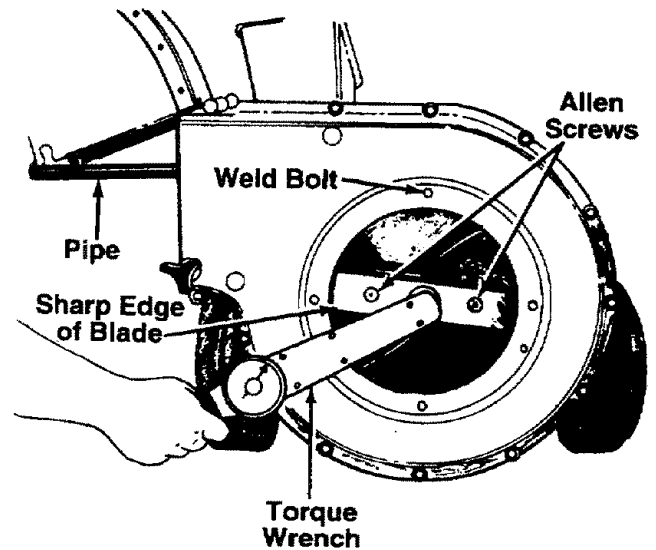

FIGURE 19.
- Lower the hopper assembly. Block up the housing. See figure 19.